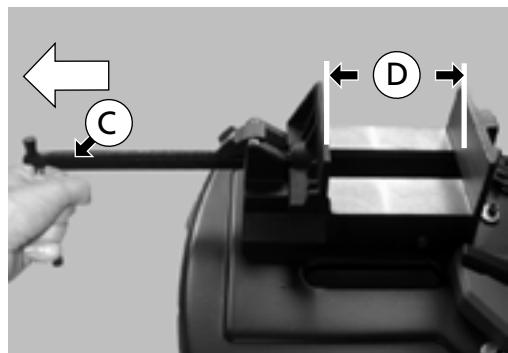

Fig. 16
2. Remove the crank handle (C) - (Fig. 16) - in the direction of the arrow to insert the piece to be cut in the opening (D) - (Fig. 16).